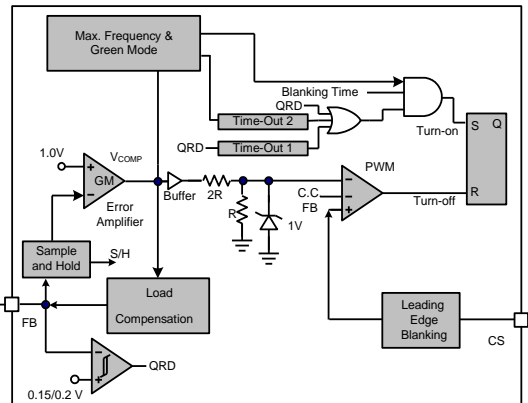

Fig. 18
The LD7516C employs quasi-resonant (QR) switching scheme to switch in valley-mode either in CV or CC operation. This will greatly reduce the switching loss and the ratio dv/dt in the entire operating range for the power supply. Fig. 18 shows the typical QR detection block. The QR detection block will detect auxiliary winding signal to drive MOS as FB pin voltage drops to 0.15V. The QR comparator will not activate if FB pin voltage remains above 0.2V.